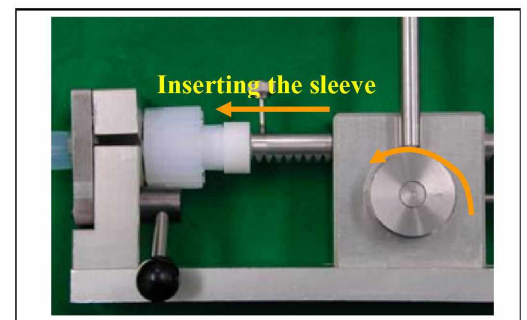

Fig. 18 - Inserting the sleeve
- Turn the lever counterclockwise to insert the sleeve into the tube (see Fig.18).